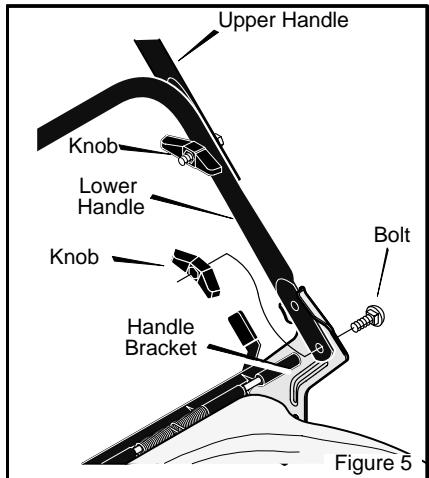

Figure 5
1. Remove the **knobs** and **bolts** from the right and left **handle brackets** (Figure 5).